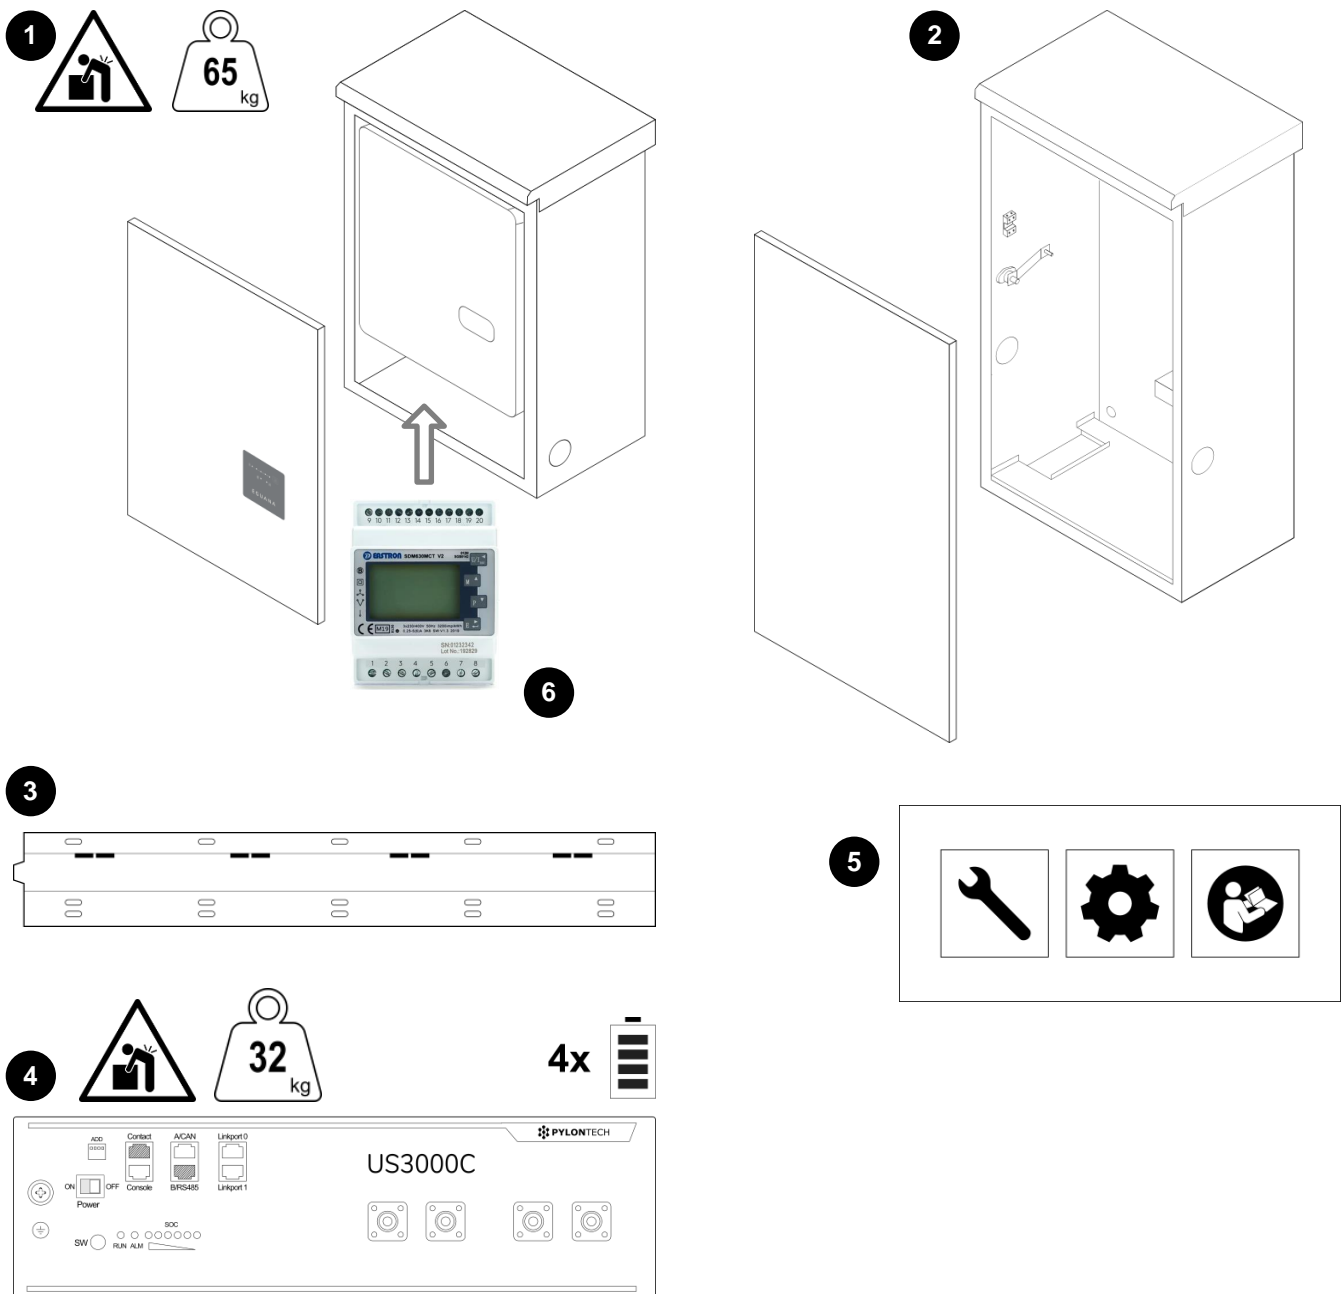

Figure 1: Evolve LFP AU materials list.
2. The forced air cooling of the PCS cabinet is from bottom to top. Refer to figure 1 for recommended layout plan.